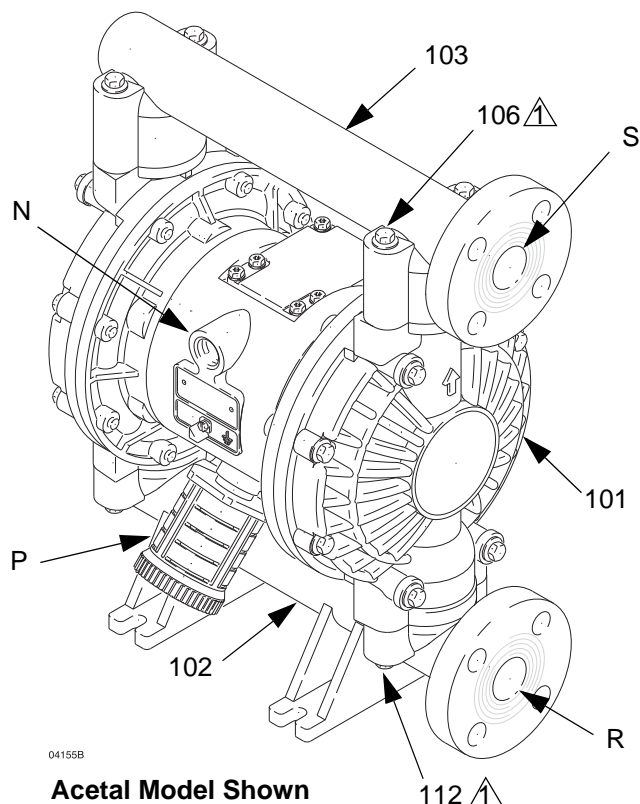

Fig. 4
The pump is shipped with the fluid inlet (R) and outlet (S) ports facing the same direction. See Fig. 4. To change the orientation of the inlet and/or outlet port:
1. Remove the screws (106 or 112) holding the inlet (102) and/or outlet (103) manifold to the covers (101).
2. Reverse the manifold and reattach. Install the screws (106 or 112). Torque the manifold screws to 80 to 90 in-lb (9 to 10 N-m). See Fig. 4. See **Torque Sequence**, page 32.